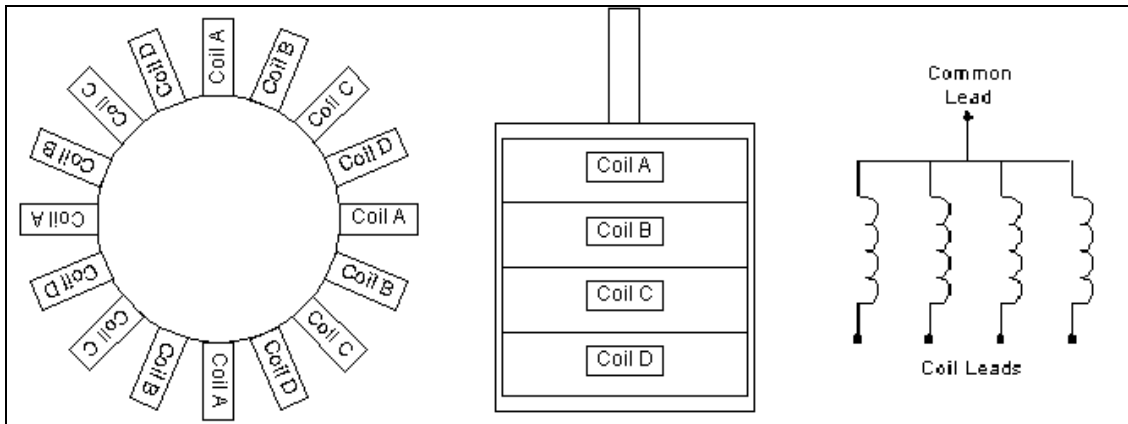

Figure 3.11: Stepper motor wiring.
Consider the diagram below (figure 3.11). The stepper **rotor** is the moving part attached to the shaft. It is a permanent magnet with North (N) and South (S) poles. The stepper **stator** surrounds the rotor and is the stationary part of the motor. It consists of several coils of wire wound around iron laminations, which make up electromagnets that can be turned on and off. Recall that like magnetic poles (i.e. N-N and S-S) repel each other while opposite poles (N-S) attract. The magnetic polarity of the stator magnets can be controlled, by controlling the current direction through the coils.